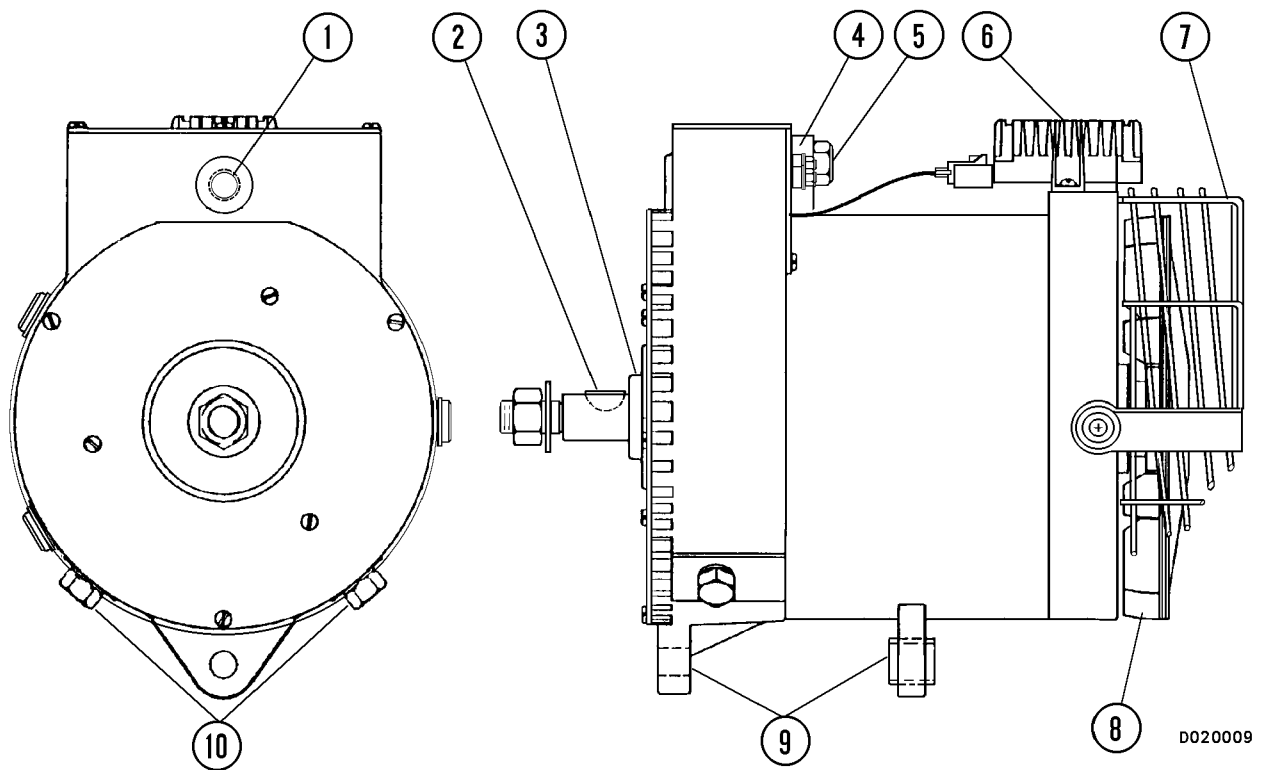

FIGURE 2-1. ALTERNATOR ASSEMBLY
The Niehoff model N1227 or C609 (Figure 2-1) is a heavy duty, 24 VDC unit rated at 220 amps. A solid state voltage regulator (6) mounted externally on the end housing assembly provides voltage control during operation. A single output connection (5) is located on the face of the control unit (4) for connection to the truck battery positive circuit. The ground circuit cable can be attached to either of two terminals (10) located on the front housing. A fan guard (7) protects maintenance personnel from the rotating fan when the engine is operating.